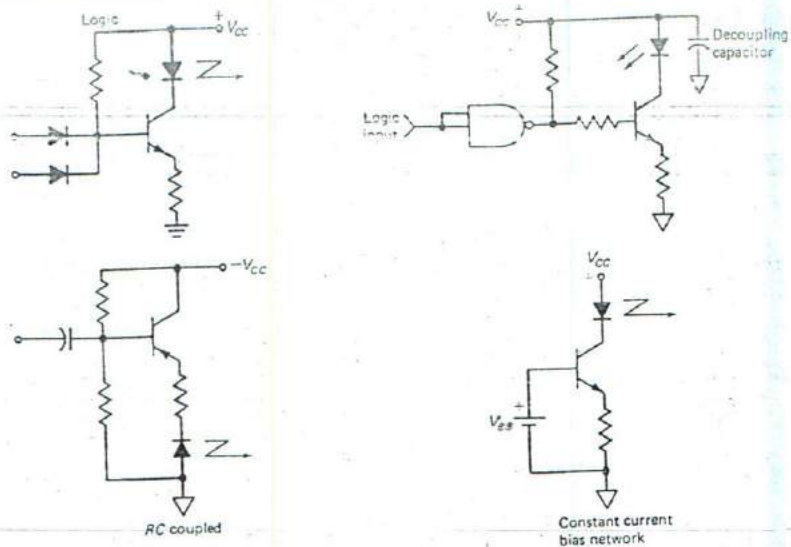
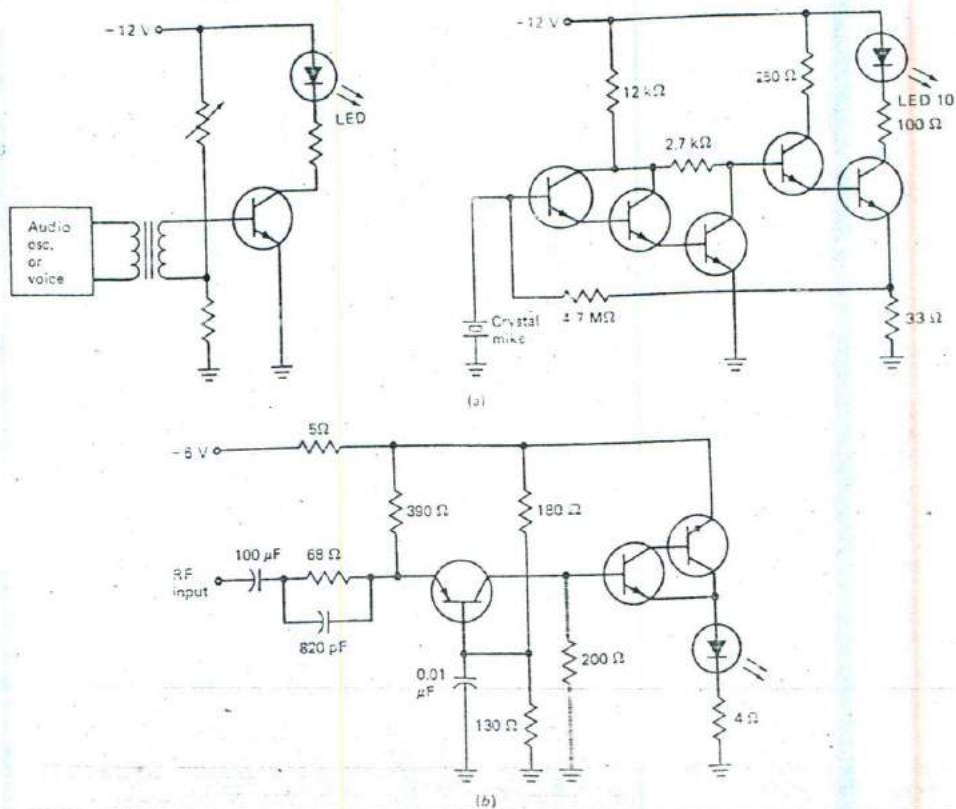

Fig. 14-11 Typical emitter circuits blocks.
Fig. 14-12 Emitter-modulation circuits. (a) Audio frequency. (b) Radio frequency.
For best performance, emitters should be biased from a current source rather than a voltage source. A simple solution is to place a resistor in series with a voltage source to approximate a current source. A few examples of typical emitter circuits are shown in Fig. 14-11. These are building blocks for the more sophisticated and optimum circuits. Information can be impressed on the emitter output by modulating the bias input to the diode. The modulation is of the amplitude modulation (AM) type. Either voice or radio frequency (RF) signals can be used for modulation, but it is important to know the frequency limitations of the diode being modulated. Typical (simple) modulator circuits are shown in Fig. 14-12. As mentioned previously, frequencies in the 100-MHz region can be obtained with some emitters. Note that all circuits have a current-limiting resistor in series with the diode.